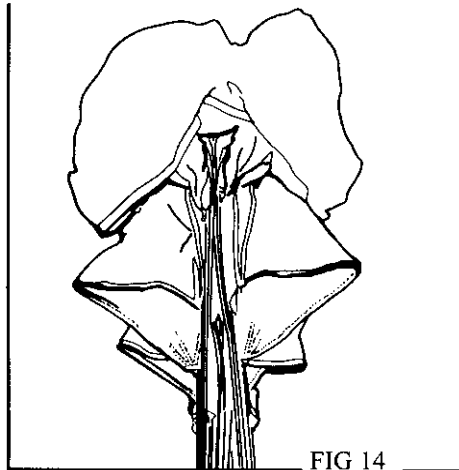

FIG 14
- Flake stabilizers evenly on each side of the line groups (FIG 14)
- Flake the tail evenly with equal distribution of material on each side of the line groups (FIG 14)